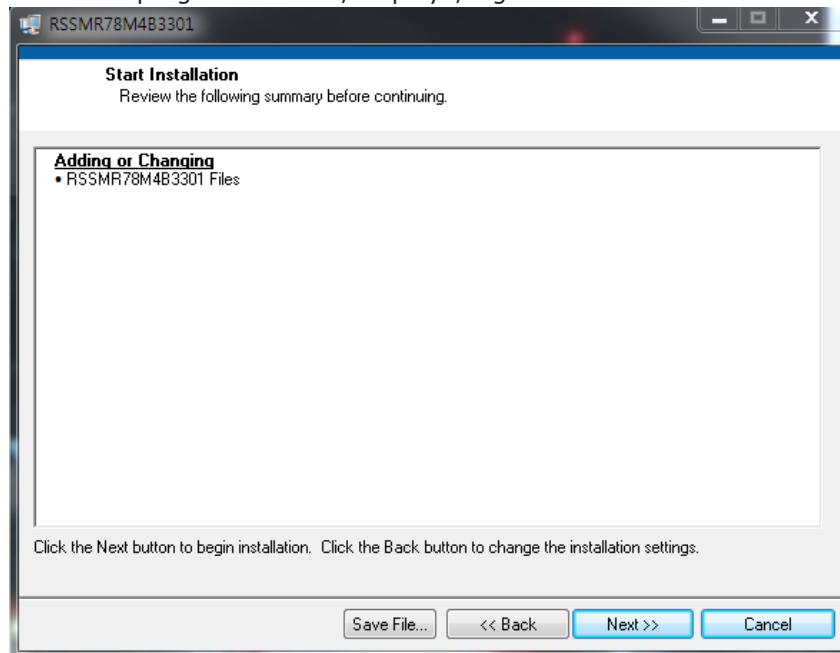

Figure 6-4: Click Next to Begin Installation
- 4) Click **Next**. The progress window, displays, Figure 6-4.